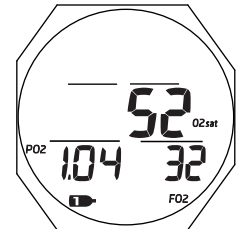

Fig. 79 - DECO STOP ALT 3
**Deco Stop Alt 3** (if Nitrox), information includes (Fig. 79) -